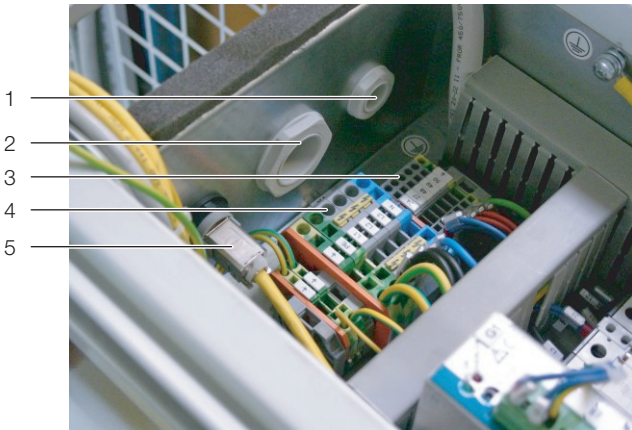

Fig. 27: Connection terminals in the electronics box
- If you wish to switch the LCP DX on and off remotely: In the electronics box, remove the jumper between the two terminals 24 and 27 ("Remote On-Off") and connect a floating remote switch (normally open contact) (fig. 27, item 3). If the two terminals are not jumpered, the status message "Din-Off" will appear in the display.